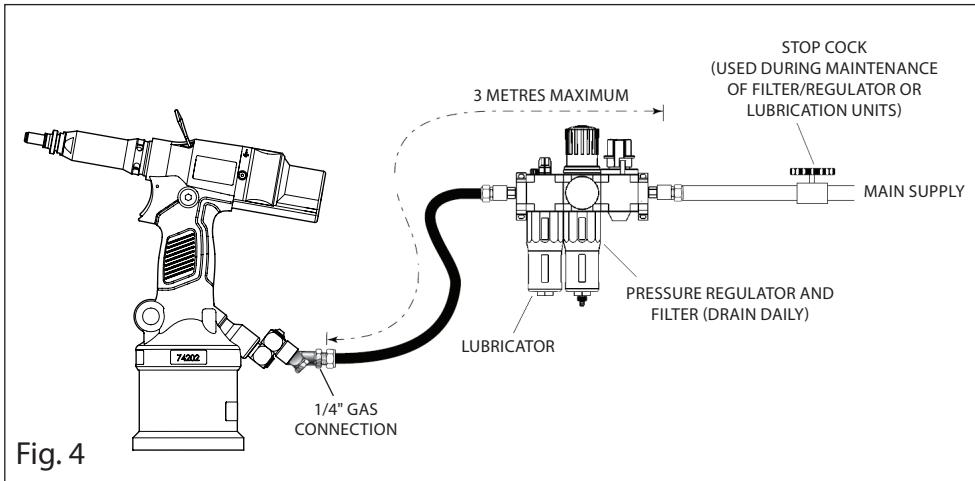

Fig. 4
- Pressure regulators and automatic oiling/filtering systems to be used on the main air supply within 3 metres of the tool (see fig. 4).